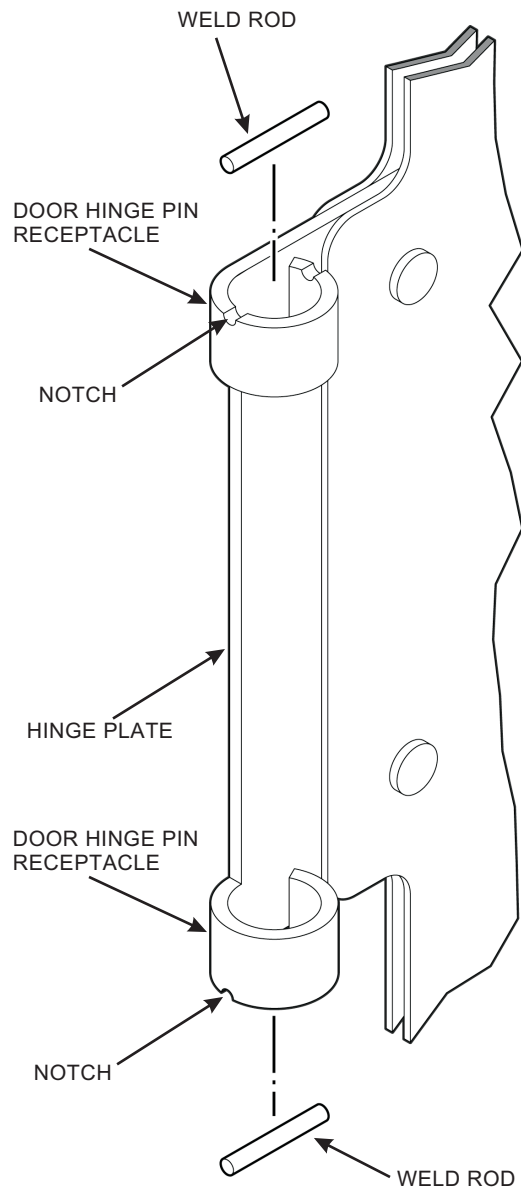

Figure DB-026-1. Door Hinge Plate
- c. Remove paint from two pin receptacles of both door hinges. File small notches in outside edges of pin receptacle 180° apart and centered on holes as shown in Figure DB-026-1. Do not exceed one half diameter of weld rod.